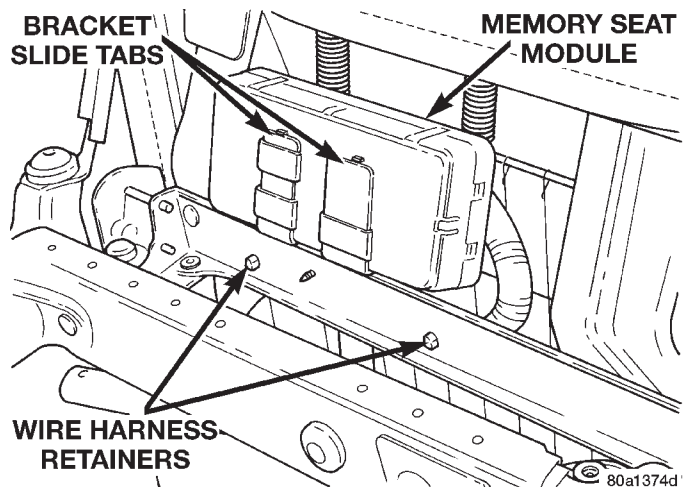

Fig. 8 Memory Seat Module Remove/Install
(5) Disconnect and isolate the battery negative cable.
(6) Remove the single screw that secures the front of each of the two seat tracks to the floor panel.
(7) Carefully tilt the top of the seat back towards the outboard side of the vehicle.
(8) Release the two retainers that secure the memory seat module wire harness to the inboard seat adjuster top rail (Fig. 8).